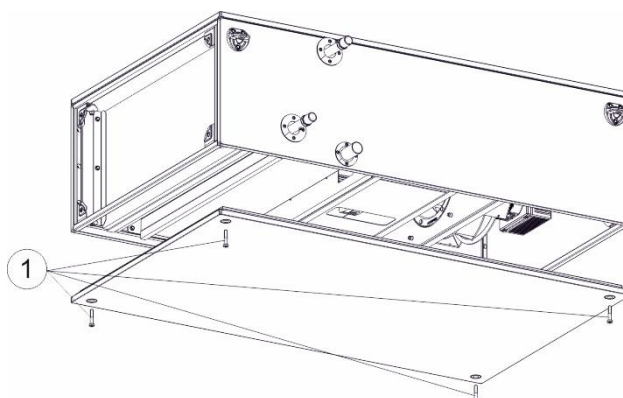

Fig.15 Removing inspection panel
Access to the internal elements of the units is possible by opening inspection panels. To remove the panel, unscrew few screws (1) fig.15 (numbers depend on the size of the section).